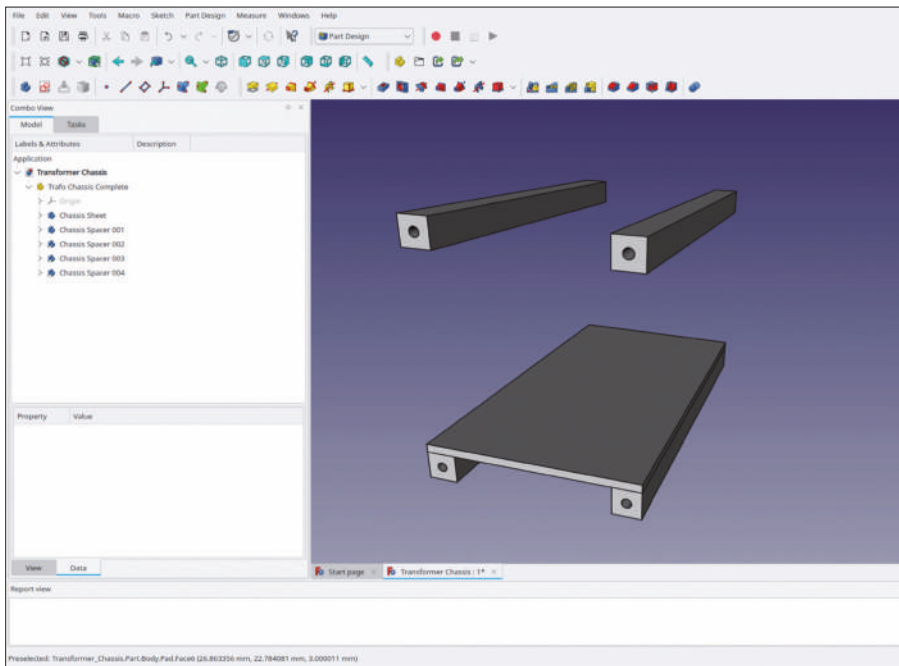

Figure 9-67
40. Set the 'Link Placement' parameters of the three new spacers according to the table below (the result is shown in Figure 9-67):